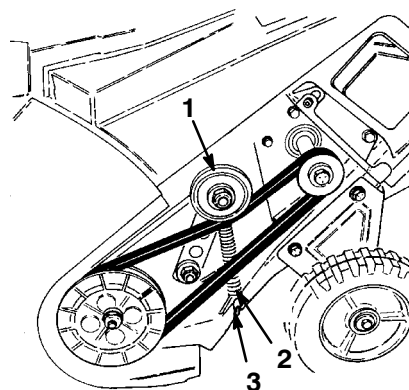

Figure 17
Make sure that the long end of the idler spring is hooked in the housing notch and that the round end of the spring is hooked on the pin on the back of the idler pulley (Fig. 17).
11. Lift up the idler pulley arm assembly, squeeze the belt together, and route the belt under the idler pulley (Fig. 17).